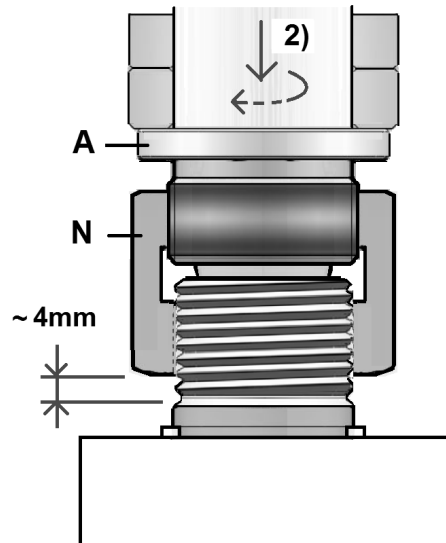

Fig 11
2) Place the arbour (A, Fig 11) into the spindle and thread arbour onto the nut (N). Slightly tighten the nut.